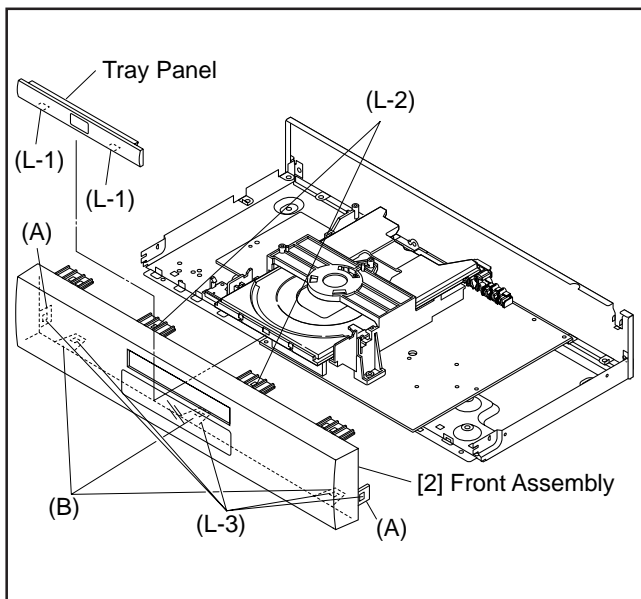

Fig. 2
- 1-6. Release two Locking Tabs (L-2). Then, release five Locking Tabs (L-3) (to do this, first release two Locking Tabs (A) at the bottom, and then three Locking Tabs (B) at the side.) (Fig. 2)